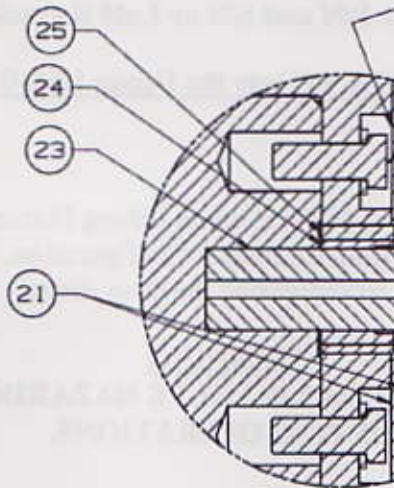

Figure 1
5. Install the one (1) Shear Pin, Upper VC Joint P/N SDG39135755-005, item 23 in Figure 1; Bushing, Inner SML VC Joint P/N SDG39135757-001, item 24; Bushing, Outer SML VC Joint P/N SDG39135757-003, item 25, into each of the four (4) VC Upper Interface Plates as shown on the Upper USS-02 Assembly drawing P/N SEG39135726-302.